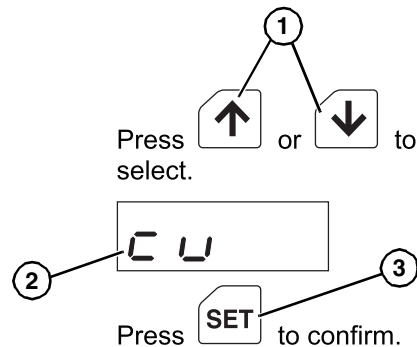

Figure 36
4. Press up or down (Figure 36, item 1) to select the speed display mode “cv” (Figure 36, item 2), and then press SET (Figure 36, item 3):